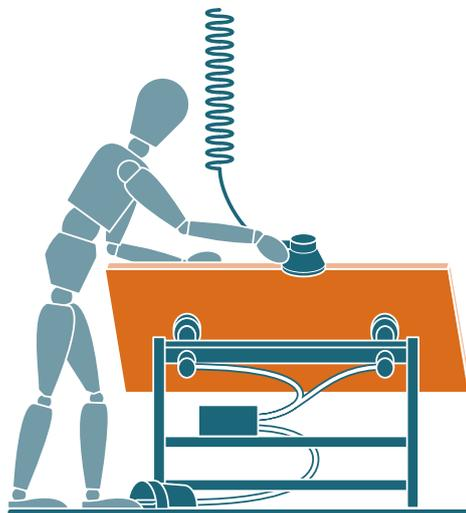

Figure 1 Vacuum workbench
- Vacuum workstands are available which can be used instead of the traditional workbench. Large flat workpieces and even doors and window frames can be held on such equipment. Working height is easily adjustable (typically between 750 to 1100 mm). The suction pads that hold the workpiece can be swivelled (by 90°) and rotated (360°), allowing the workpiece to be worked at easily (see Figure 1). For larger workpieces, height-adjustable vacuum workbenches are available. On these, the workpiece mounting can be swivelled and locked at any angle too suit the job in hand. A number of other non-vacuum designs of workstand are also available.